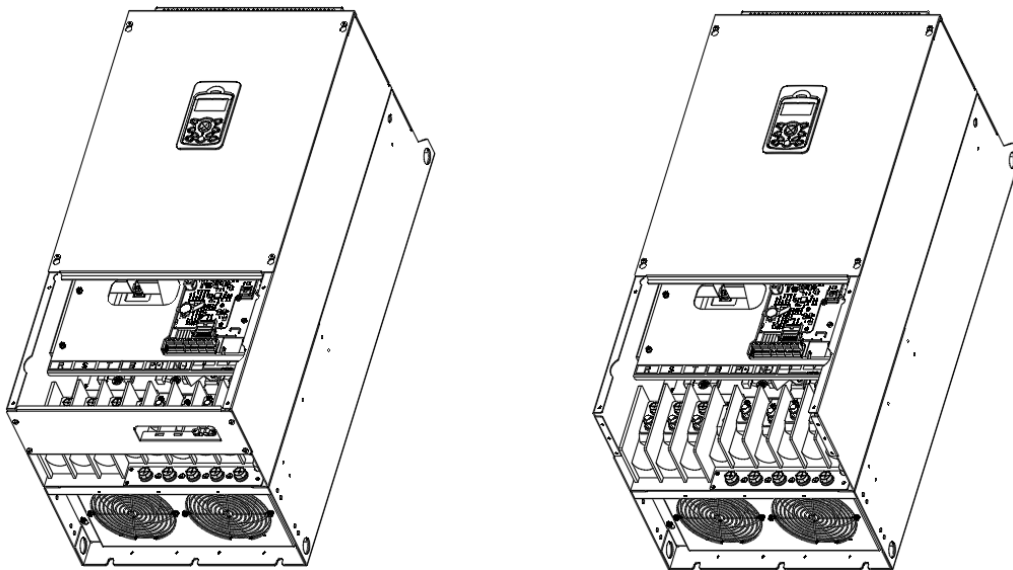

Figure 10. Remove power cover and front cover
- ① Remove the power cover and front cover of the product as shown in Figure 10.